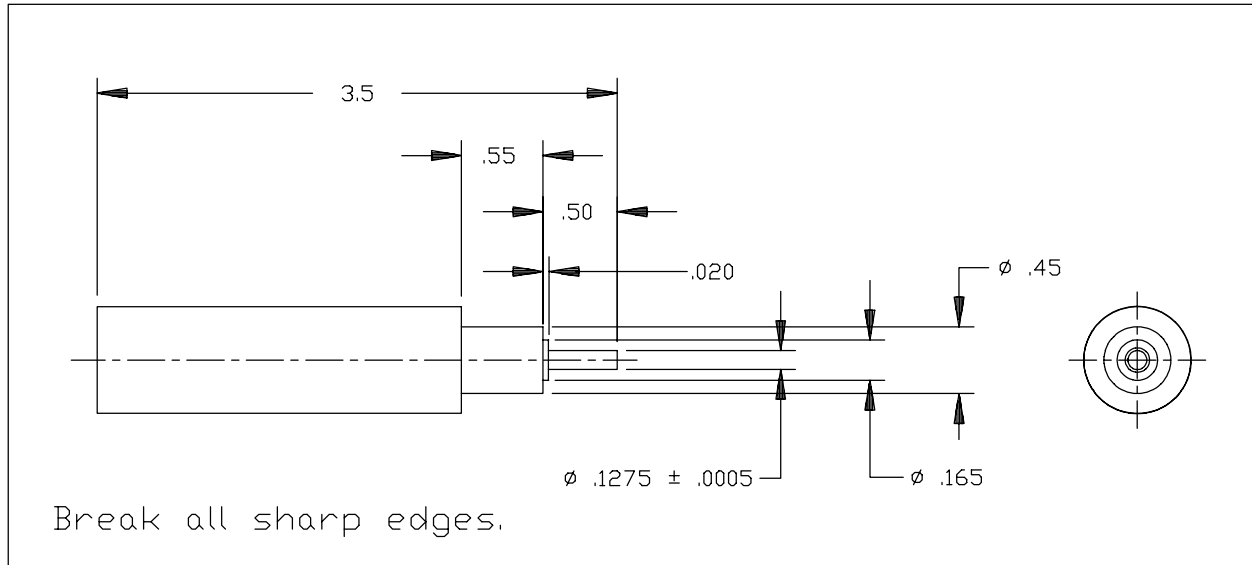

Figure 6
2.8.2.2.2 Install new bushings with bushing insertion tool shown in Figure 6. This tool may be fabricated by user or purchased from Micropump Corp. as P/N 5465. **NOTE:**